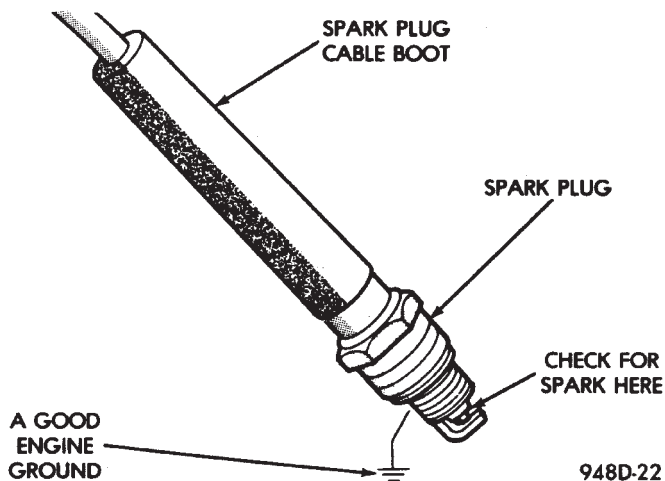

Fig. 19 Testing For Spark
(1) Insert a new spark plug into the new spark plug boot. Ground the plug to the engine (Fig. 19). Do not hold with your hand.
(1) Insert a new spark plug into the new spark plug boot. Ground the plug to the engine (Fig. 19).
(2) Remove distributor cap. Refer to Distributor Service in this section.
(3) Plug test spark plug cable onto coil tower.